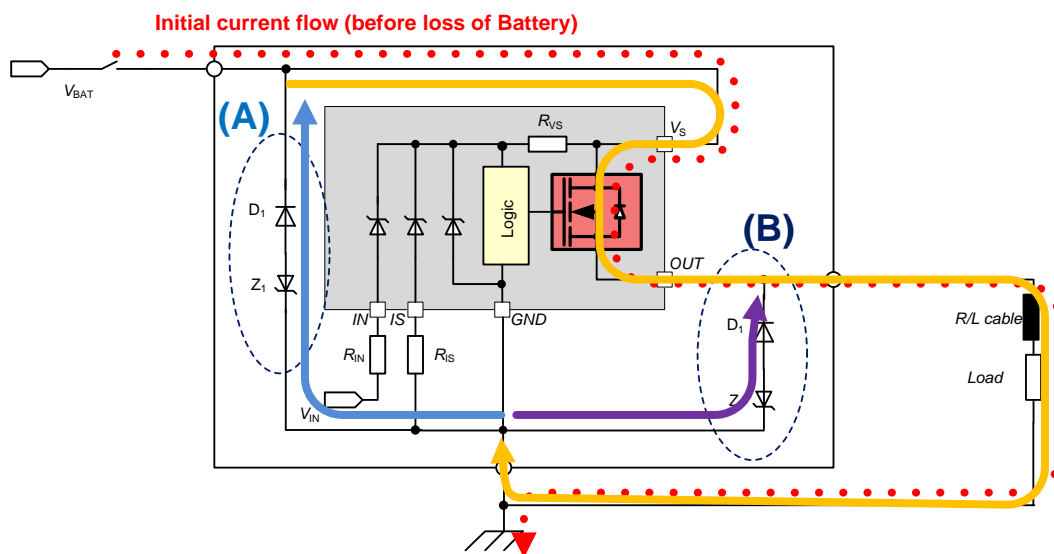

Figure 4 Loss of Battery
- The Maximum Single Pulse Current vs. Pulse Time (refer to datasheet figure 4) shall not be exceeded. Especially when Power PROFET™ is used in high current performance / low overall $R_{TH(JA)}$ cooling condition, it is recommended to utilize the current sense function to maintain the current/pulse-time/limitations.
Figure 4 illustrate this condition.
Before loss of ECU Battery a load current may flow from the battery through the ECU according Figure 4 red dashed line (i.e. from battery, through battery supply wire, through ECU battery connector, on the ECU PCB traces through the Power PROFET™ power stage, through ECU load connector, through load, through ground/chassis back to battery gnd pole).
- A GND related clamping of the VS pin (see Figure 4 light blue freewheeling path option (A))
- A GND related clamping of the OUT pin (see Figure 4 lila freewheeling path option (B))